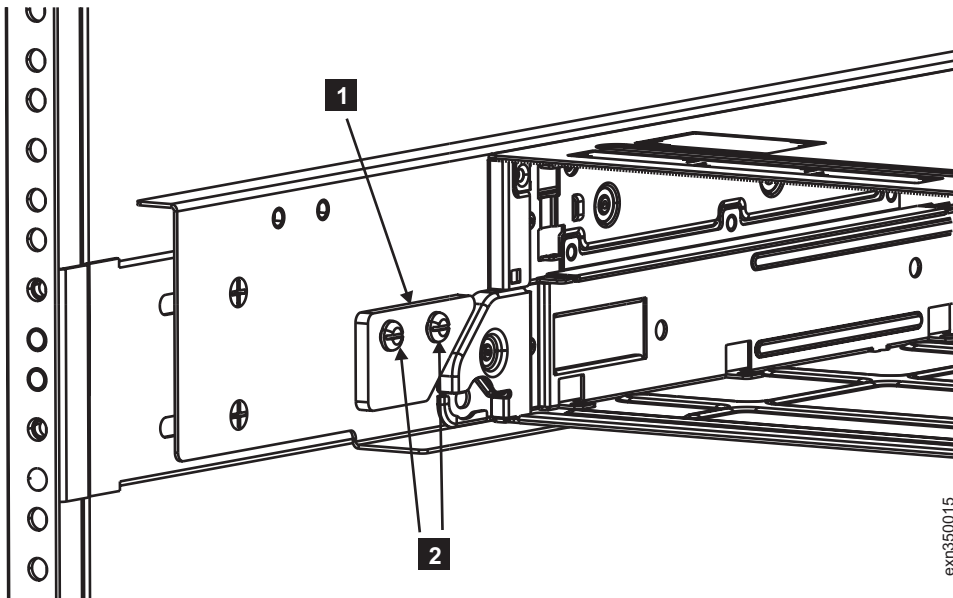

Figure 6. Attaching the rear tie-down plate
5. From the back of the rack, attach a rear tie-down plate **1** to the left and right rails using four M5 pan head screws (two for each rail) **2**, as shown in Figure 6.